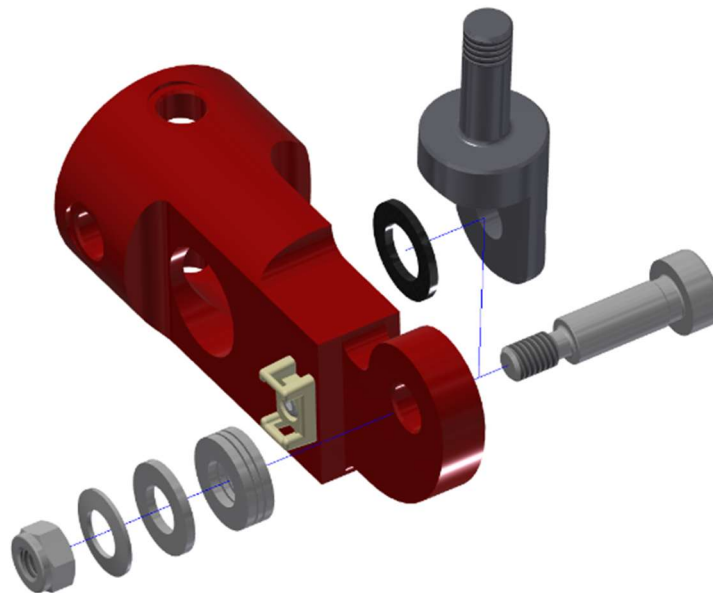

Figure 11-36. Assembly of Shoulder Clevis (483-3504) and Distal Upper Arm Tube (484-6110-1,2)
- 11.3.12 Assemble the Shoulder Clevis (483-3504) to the Distal Upper Arm Tube (484-6110-1,2) with the M8 X 20 LG. SHSS, four washers, and M6 X 1 Hex Lock Nut (Figure 11-36). A Friction Washer (474-3533) sits between the clevis and the arm tube. The remaining stack of washers include a 8 X 16 X 5 THK. Ball Bearing Thrust Washer (5001520), a M8 Plain Washer (5000123), and a M8 Belleville Washer (5001388).